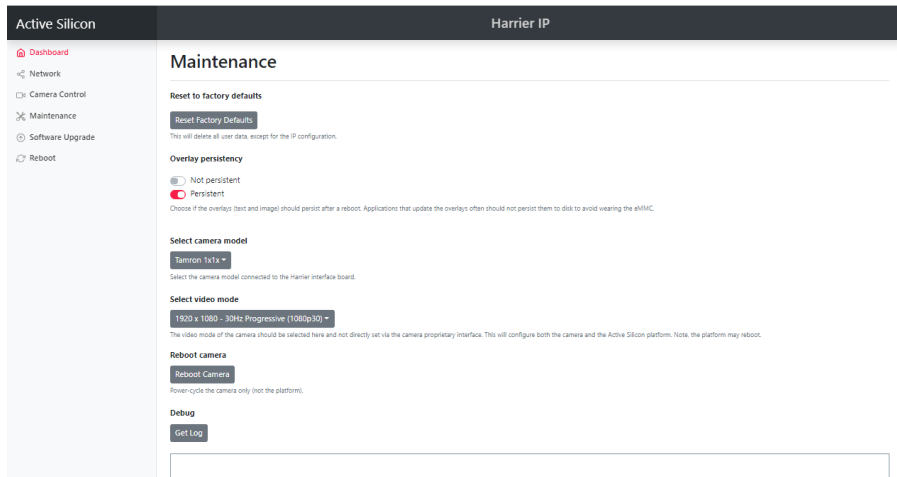

Figure 23. Harrier IP Maintenance web page
- From the menu select 'Maintenance' to go to the Maintenance web page (figure 23).